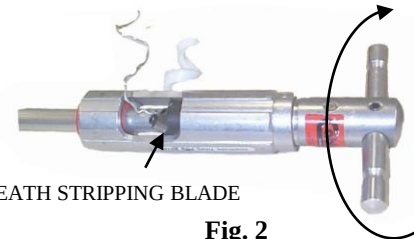

Fig. 2
Step 2. (Fig. 2) Turn the the tool in a clockwise direction using slight forward pressure. The coring bit will remove the foam dielectric, then the sheath stripping blade will remove the aluminum sheath.